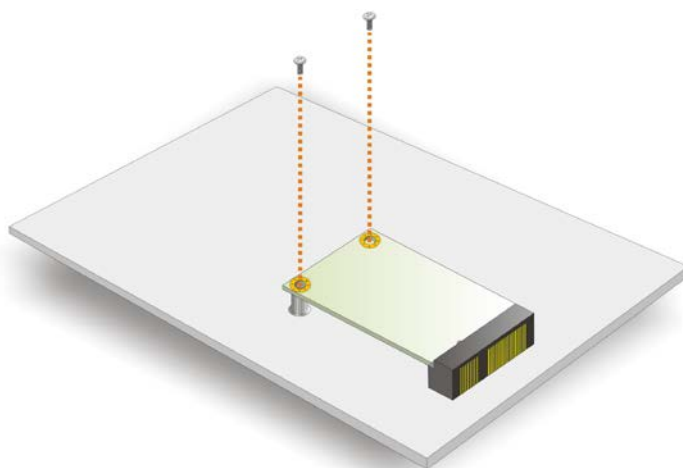

Figure 3-10: Securing the PCIe Mini Card
Step 4: Secure the PCIe Mini card. Secure the PCIe Mini card with the supplied retention screws (Figure 3-10).